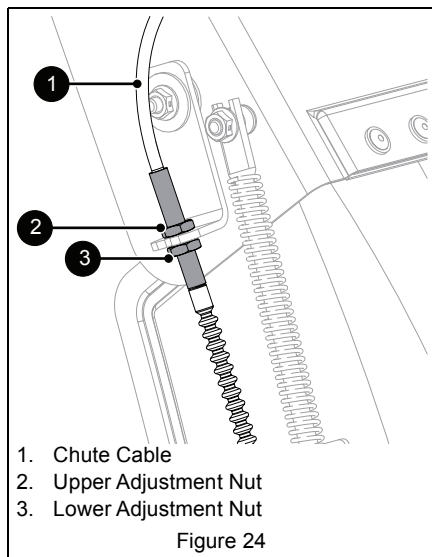

Figure 24
2. Adjust nuts on chute cable. See Figure 24.